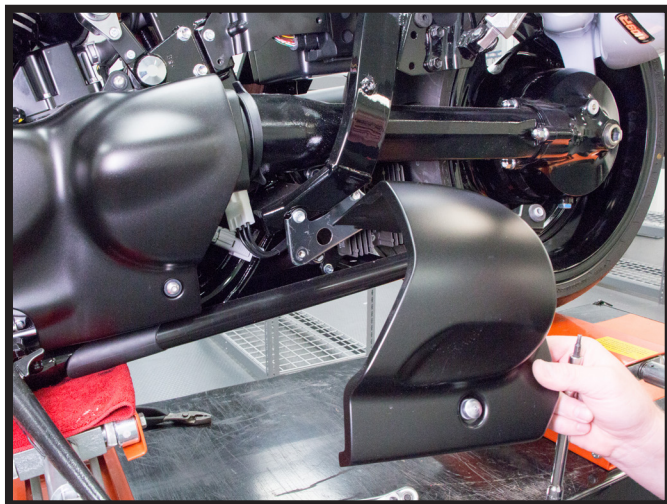

FIGURE 5
2. REMOVE THE TWO COVERS ON THE LEFT SIDE OF THE MOTOR. (FIGURES 5, 6)